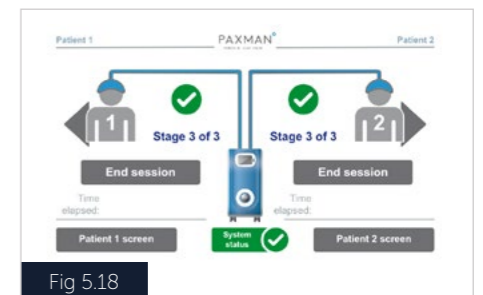

Fig 5.18
- When Post-Infusion Cooling is complete press the **End Session** button (Fig 5.18).